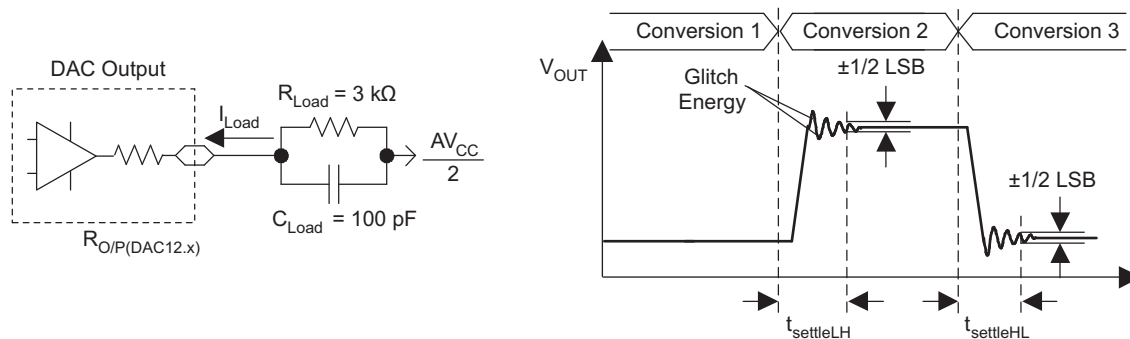

Figure 5-45. Settling Time and Glitch Energy Testing
(1) R_{Load} and C_{Load} are connected to AV_{SS} (not AV_{CC}/2) in Figure 5-45.
(2) Slew rate applies to output voltage steps ≥ 200 mV.